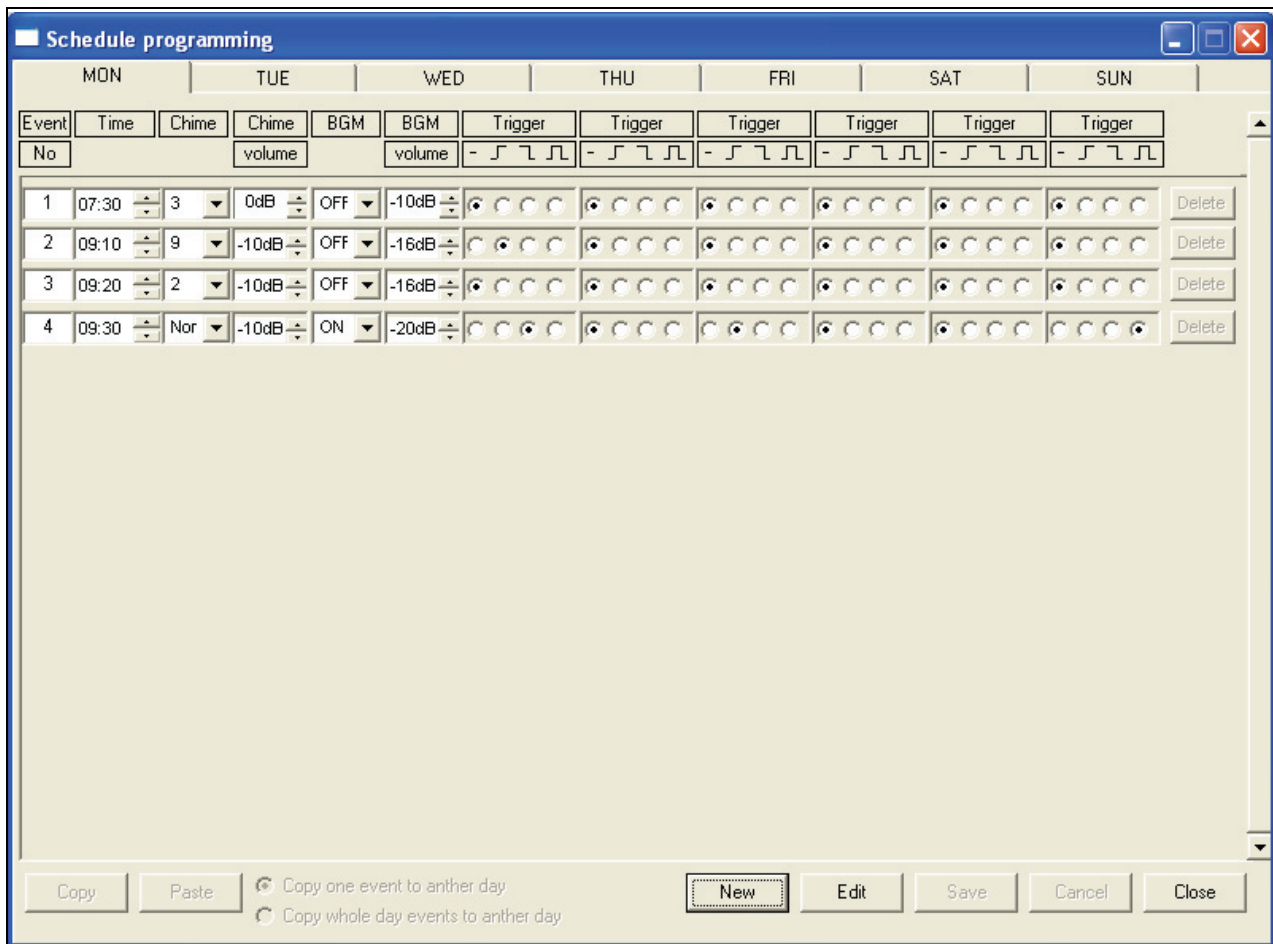

figure 8.15: Schedule programming window
- assigned individual properties, such as the time the event takes place, and the type of chime or trigger required (see figure 8.15).
- 2 Select the configuration file that you want to open, and then click Open. The configuration will be loaded, and displayed on the Schedule programming window (see figure 8.15).